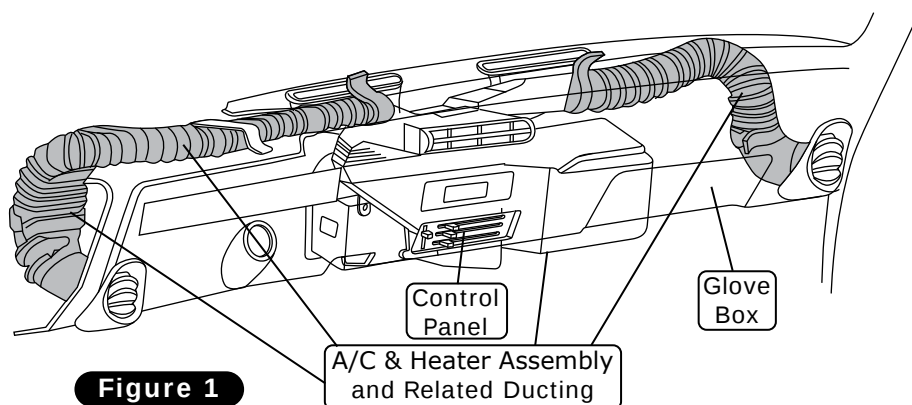

Figure 1
6. Remove the OEM condenser and drier (discard) (See Figure 1, below). **NOTE: Removal of OEM condenser and drier is only needed if installing a condenser kit.**
7. Remove the OEM A/C lines from the compressor to the evaporator (discard) (See Figure 1, below).
8. Remove the OEM compressor and bracket (discard) (See Figure 1, below).
10. Remove the OEM heater hoses, A/C hoses, and hardlines (discard) (See Figure 1, below).
4. Remove all hoses and ducting from the OEM louvers (See Figure 1, below).